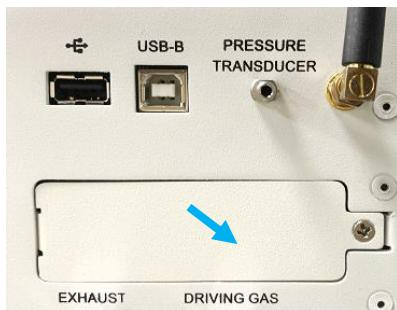
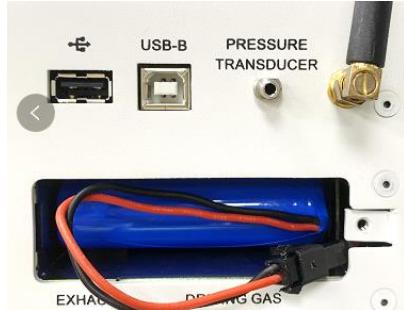

Figure 7-1
Figure 7-2
- 1) Unscrew the battery compartment on the back of the machine with a cross screwdriver, as shown in Figure 7-1;
- 2) Remove the battery cover and put it aside with the screws to observe the wiring harness of the battery; pull out the wire clip shown in Figure 7-2 out of the cabinet;
- 1) First, loosen and remove the screw counterclockwise at the position of the air filter on the back of the ventilator (Figure 7-1). If the screw is too tight, remove it with a screwdriver, and open the cover, as shown in Figure 7-2;